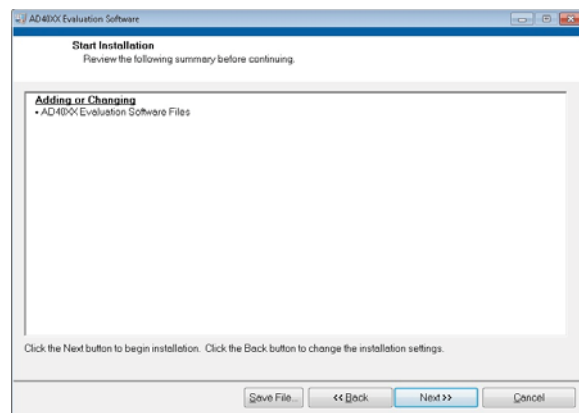

Figure 6. Start Installation
6. Click **Next>>** again to install the AD4020 reference design software (see Figure 6).